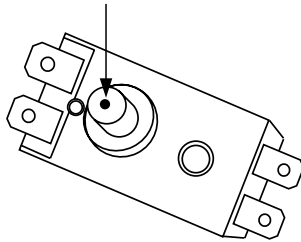

Fig. 10
- press the button, located at the center of the thermal switch, Fig.10 ;